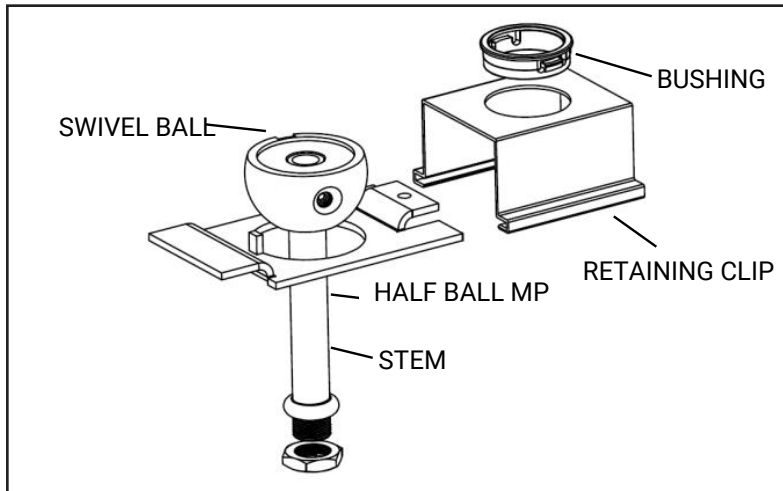

Figure 5
6. After **Swivel Ball** is installed, insert **Stem** through **Half Ball Mounting Plate**. (Figure 5)
7. Insert **Bushing** into **Retaining Clip**. (Figure 5)
8. Slide **Retaining Clip** into **Half Ball Mounting Plate**. (Figure 5)